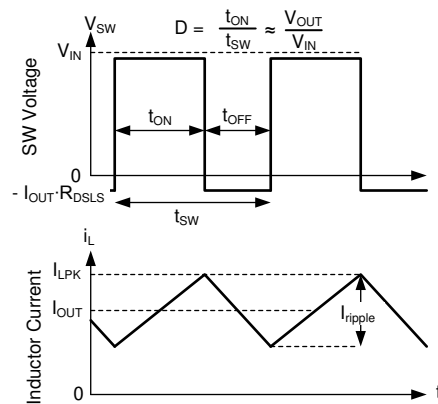

Figure 8-16. SW Voltage and Inductor Current Waveforms in Continuous Conduction Mode (CCM)
The following operating description of the LM61460 refers to Section 8.2 and to the waveforms in Figure 8-16. In CCM, the LM61460 supplies a regulated output voltage by turning on the internal high-side (HS) and low-side (LS) NMOS switches with varying duty cycle (D). During the HS switch on-time, the SW pin voltage, V_{SW} , swings up to approximately V_{IN} , and the inductor current, i_L , increases with a linear slope. The HS switch is turned off by the control logic. During the HS switch off time, t_{OFF} , the LS switch is turned on. Inductor current discharges through the LS switch, which forces the V_{SW} to swing below ground by the voltage drop across the LS switch. The converter loop adjusts the duty cycle to maintain a constant output voltage. D is defined by the on-time of the HS switch over the switching period: